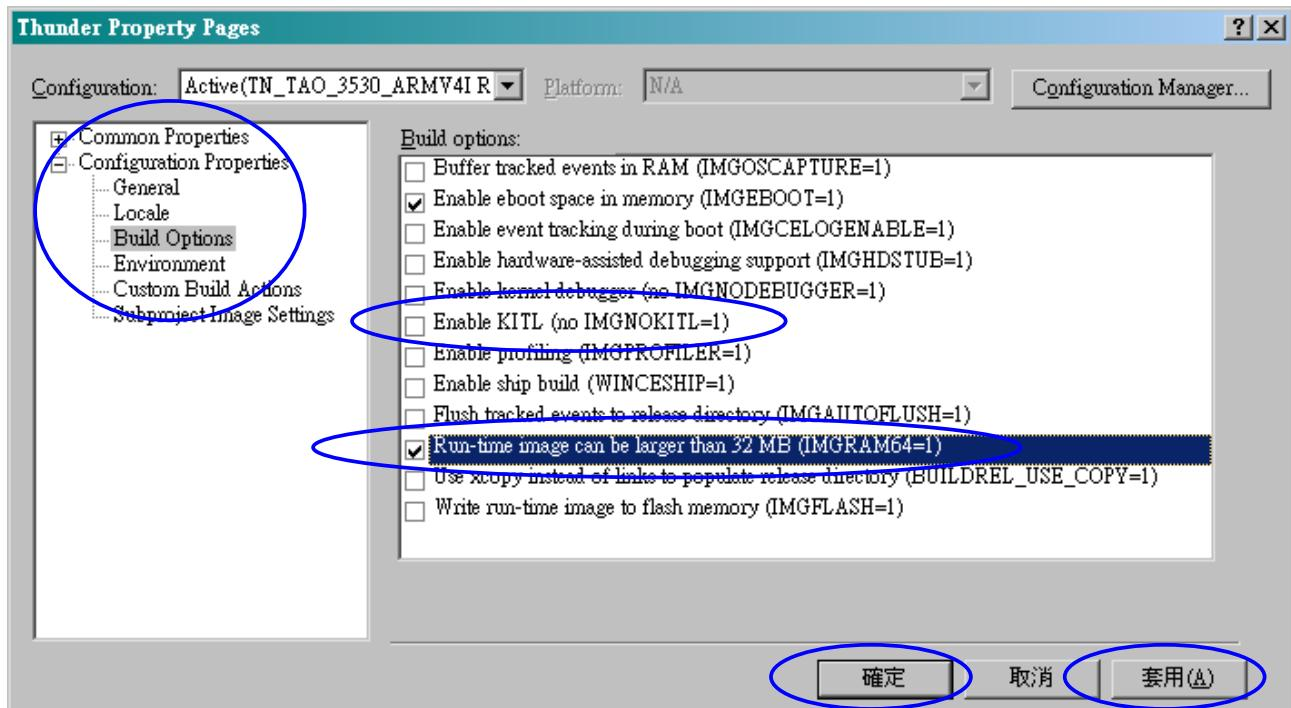

Figure 137
- Click “Configuration Properties → Build Options”. (See Figure 137)